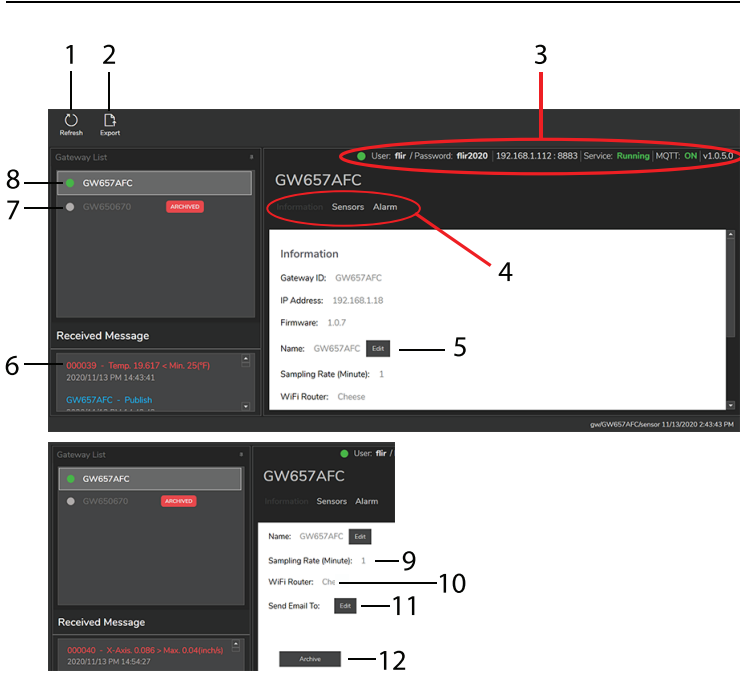
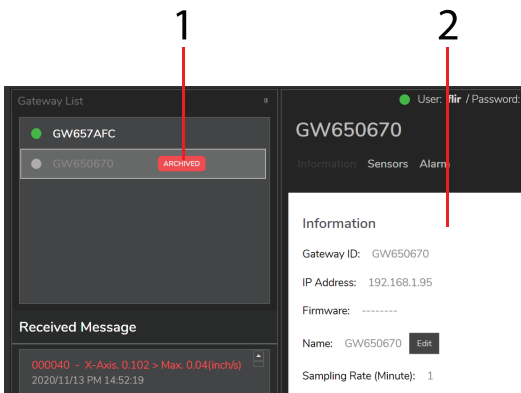

Figure 10.1 Windows App opening screen with Information tab selected.
Figure 10.10 Archived Gateway screen.
Refer to the call-out numbers in Figure 10.1, below, for this numbered list.
4. Information, Sensors, and Alarm tabs. Click a tab to open. The Information tab is selected in Figure 10.1 below.
Configurations can be archived for future reference by clicking on ARCHIVE in the Information tab as shown at the start of this section in Figure 10.1. In Figure 10.10, below, the archive screen is shown when an archived configuration is selected.